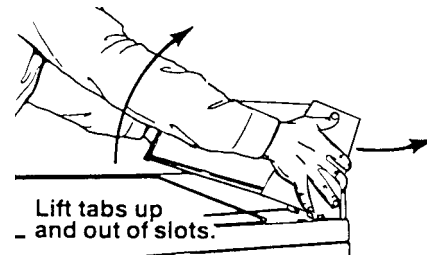

Fig. 12
2. Grab console on both sides. Pull console towards you, lifting the tabs up and out of the console slots. Carefully flip console back to make repairs. Do not lean console against wall. Console may mar or damage wall. If dryer is too close to wall, pull dryer forward so console does not touch wall. (Fig. 12)